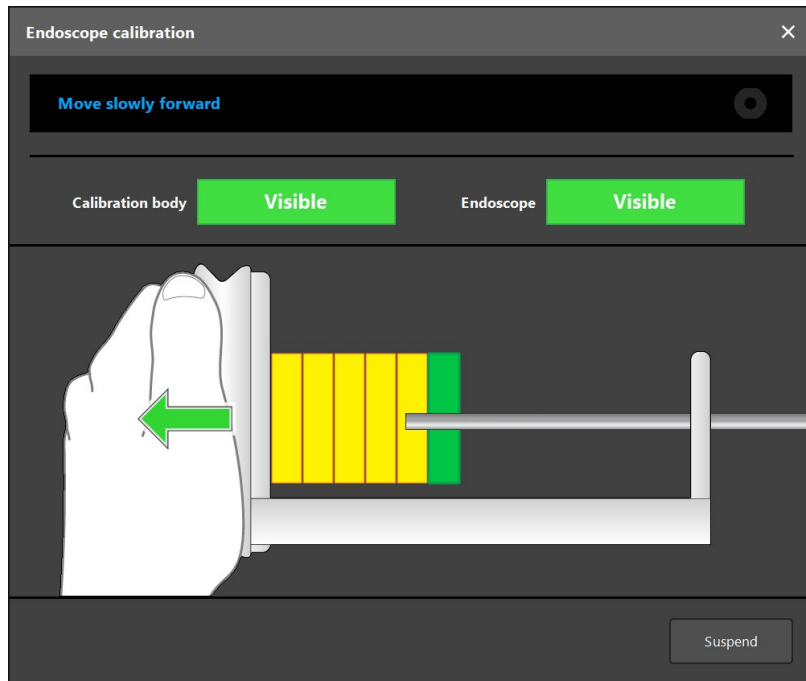
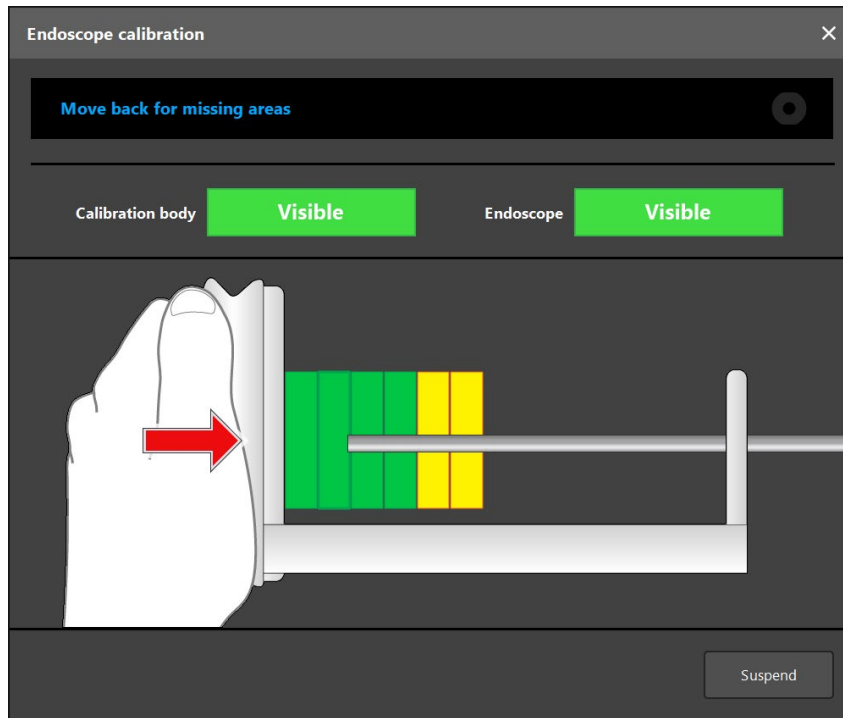

Figure 133 *Endoscope calibration* - move slowly forward
Figure 135 *Endoscope calibration* - move back for missing areas
3. Slowly move the endoscope backward and forward inside the Calibration Body Electromagnetic until the displayed yellow bars turn green (Figure 133 - Figure 135). Refer to the message bar for directions.